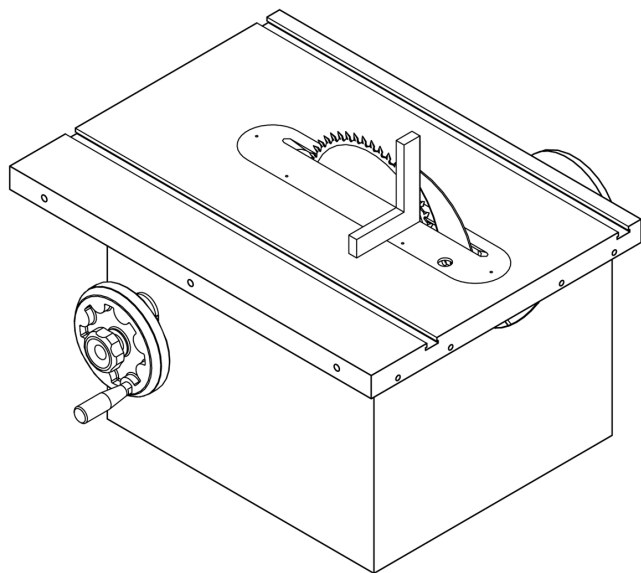

Fig. 16 (checking vertical alignment)
4. Place a machinist's square flat on the table and slides it against the riving knife as shown in Figure 16: